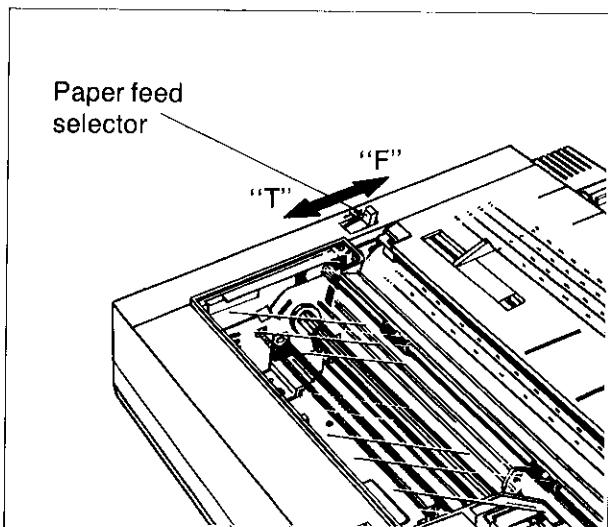

Figure 2.5A Paper Feed Selector
- Place the PAPER FEED selector in the "F" position. Refer to Figure 2.5A.